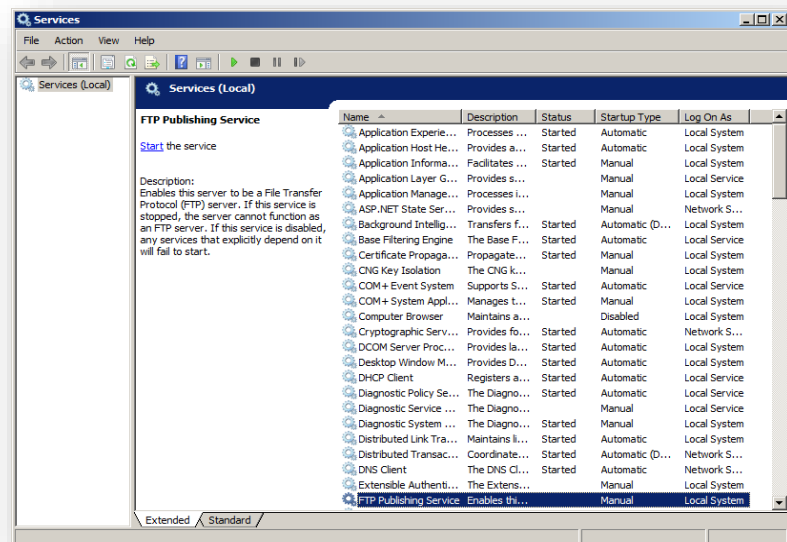

Figure 11 - Services
16. Click the Start Menu/Administrative Tools and click **Services** to open the Services window. See Figure 11.